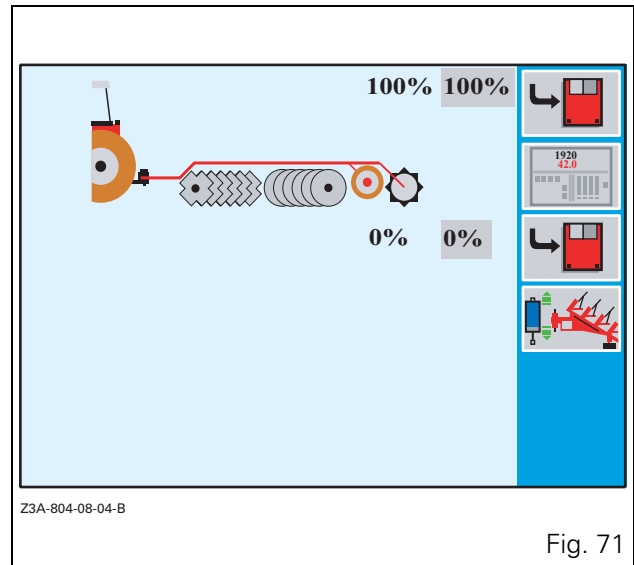

Fig. 71
- Pressing the key «₅ returns the user to the TIC configuration menu (Fig. 71).
NOTE: For data description and settings (Fig. 71), see section 7.8. (DUAL CONTROL application).